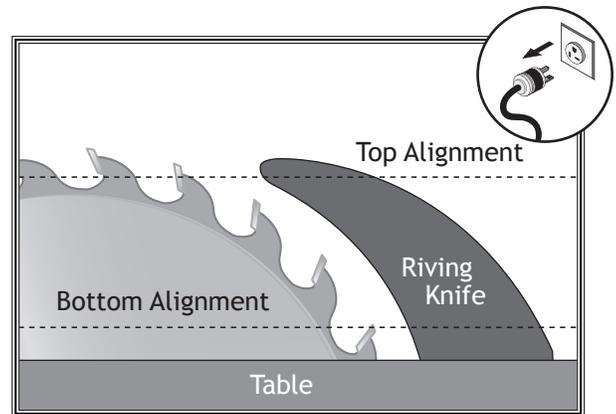
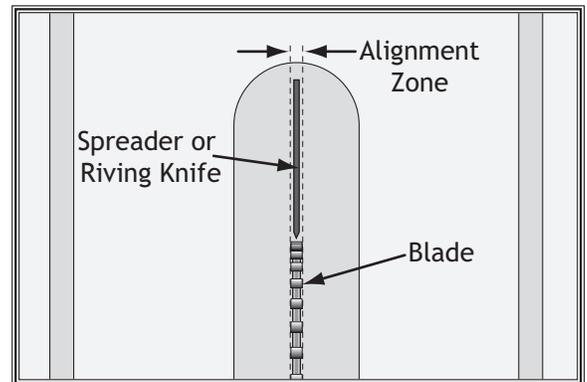

Figure 115. Example of checking top and bottom riving knife parallelism with blade.
Figure 116. Spreader/riving knife alignment zone.
3. Place straightedge against side of blade and spreader/riving knife at top and bottom, as shown in **Figure 115**. Spreader/riving knife should be parallel with blade along its length at both positions, and in "Alignment Zone," as shown in **Figure 116**.
2. Bend spreader or riving knife by hand while installed, then follow **Steps 1-3** in **Checking Alignment** on **Page 72** to determine if it is parallel with blade and inside "Alignment Zone" (refer to **Figure 115** **Checking Alignment** on **Page 72**).